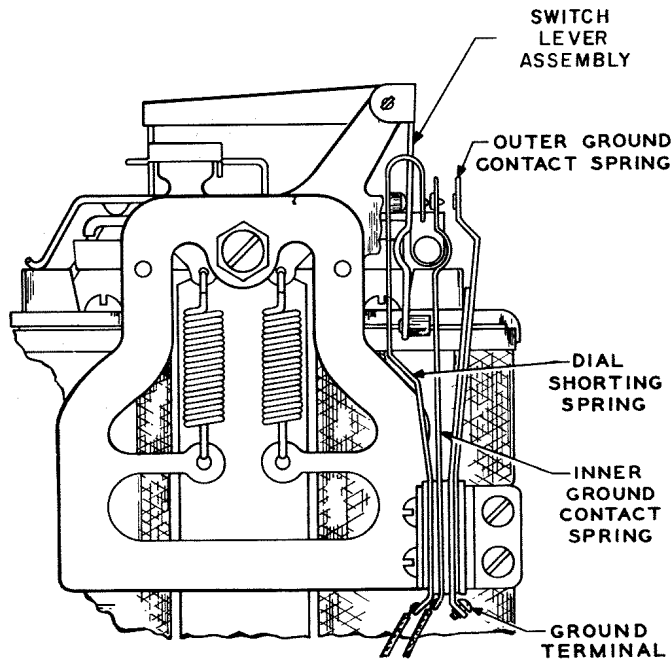

Fig. 4 — D-96590 Dial Shorting Relay, 3-Spring (Guard Cut Away)
4.04 With coin trigger and operating arm in normal unoperated positions, dial shorting contact springs should have perceptible follow. With coin trigger tripped, they should be open; judge visually. (See Fig. 4 and 5.)